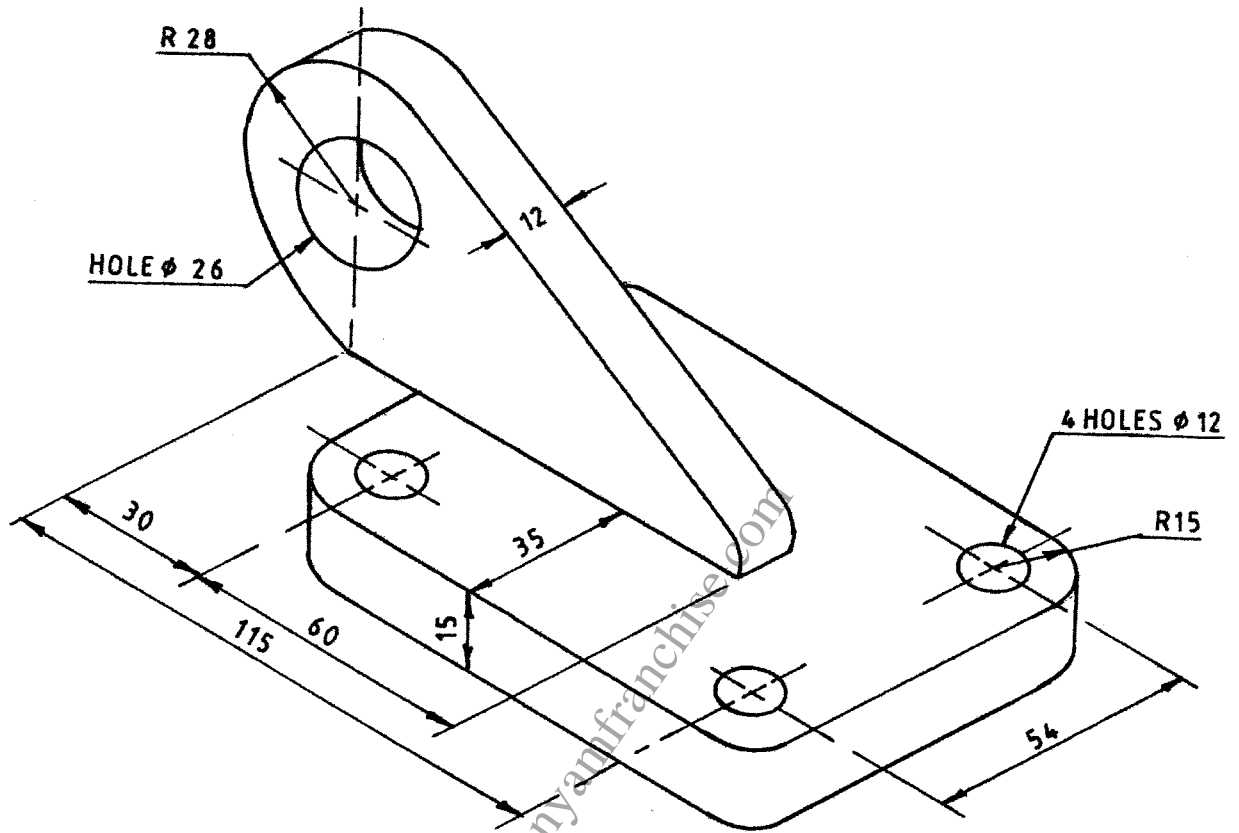

Fig. 5
7. Figure 5 shows a pictorial view of a lifting eye. Draw full size the eye in isometric projection. (15 marks)